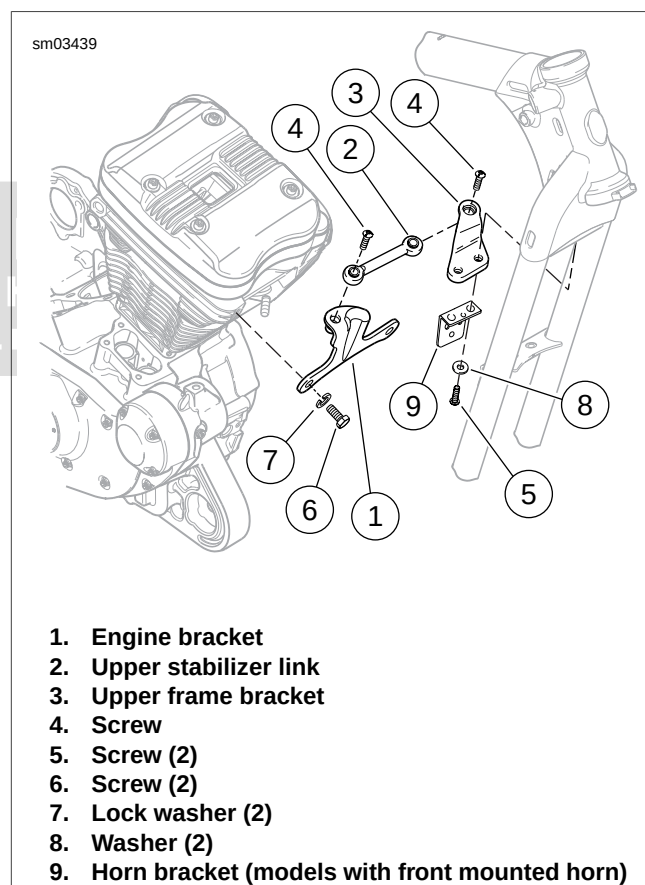
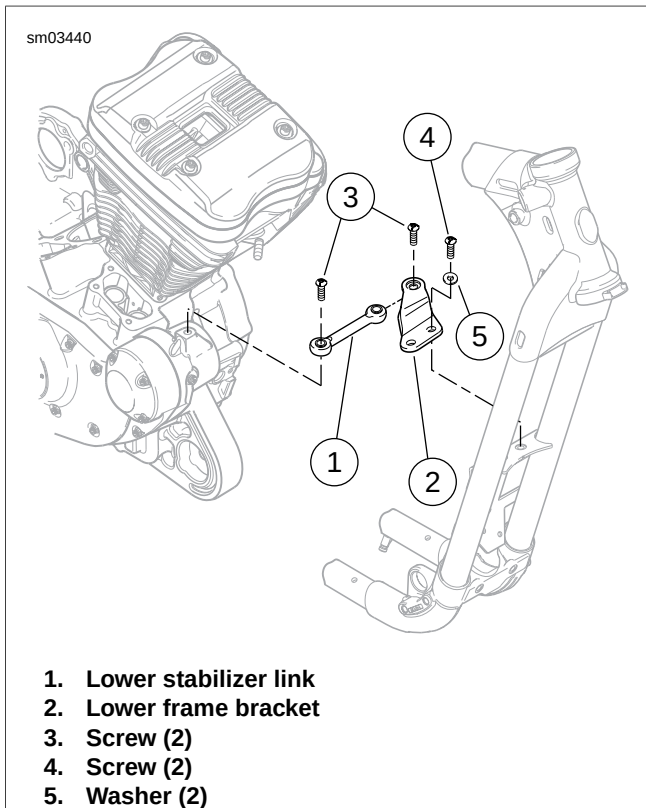
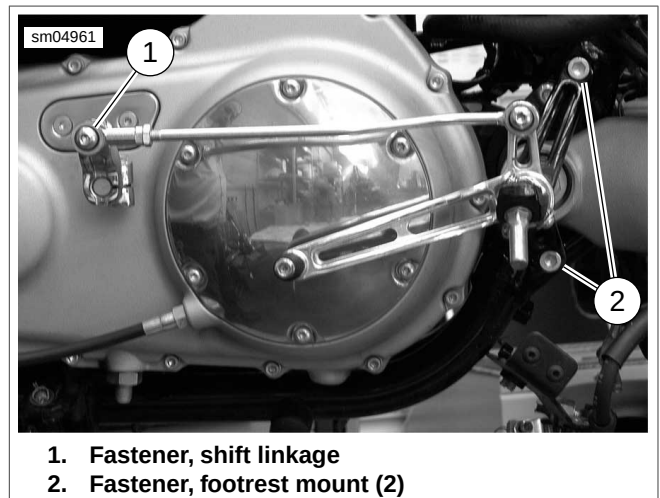

Figure 3-24. Upper Front Stabilizer Link Assembly: Typical (XL Model Shown)
Figure 3-25. Lower Front Stabilizer Link Assembly: Typical (XL Model Shown)
Figure 3-26. Left Footrest and Shift Linkage
31. See Figure 3-24. Remove upper stabilizer link (2) and upper frame bracket (3):
- a. Remove screw (4) securing stabilizer link to engine bracket (1).
- b. Remove screws (5) and washers (8). Remove horn bracket (9) and upper stabilizer link bracket (3) with stabilizer link.
32. See Figure 3-25. Remove lower stabilizer link (1) and lower frame bracket (2) as an assembly:
- a. Remove screw (3) securing stabilizer link to engine crankcase boss.
- b. Remove screws (4), washers (5) and lower frame bracket with stabilizer link.
33. See Figure 3-26. Remove fastener (1) and disconnect shift linkage from transmission shift lever.
34. Remove fasteners (2) and remove rider left footrest and mounting bracket assembly along with foot shift lever and linkage.